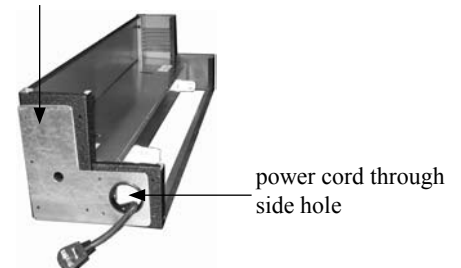

Figure 2
- Put the right LLD power cord through the side hole. (Fig. 2)
- Add the provided spacer to the right LLD. (Fig. 2)